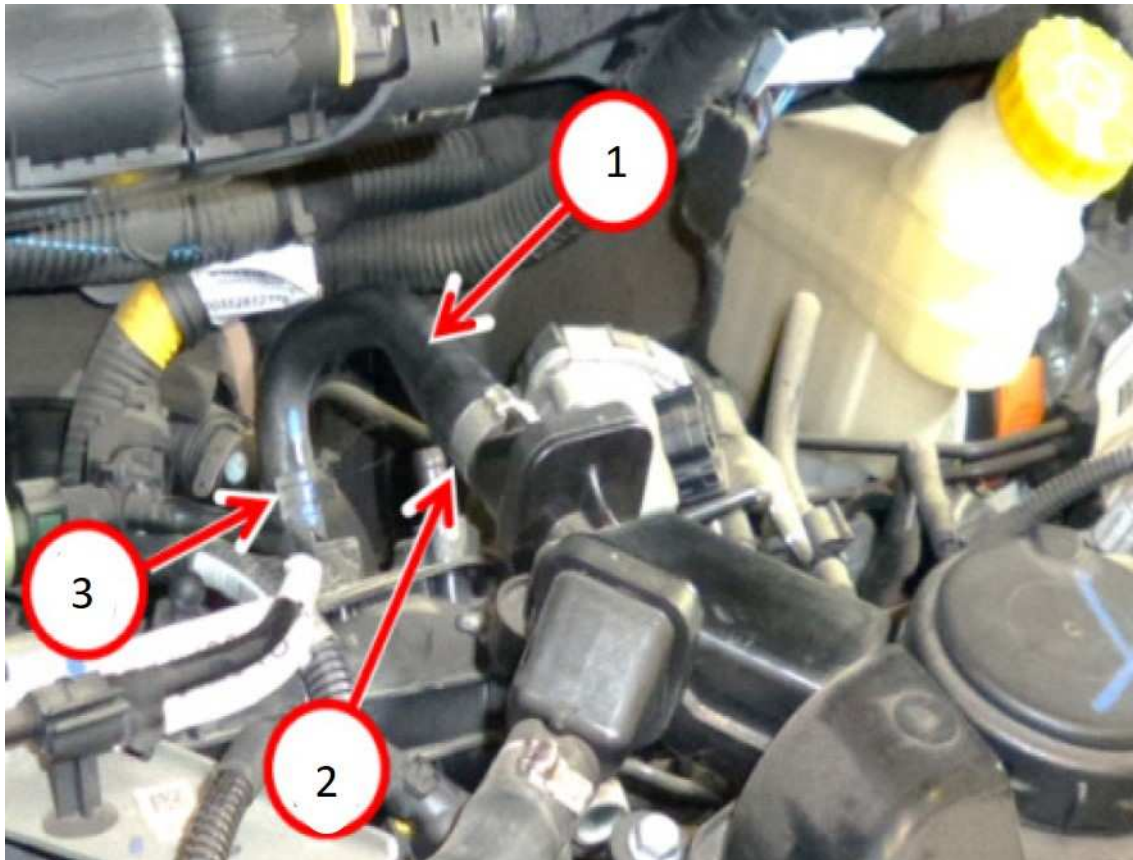

Fig. 1
2. Remove the clamps, then remove the oil vapor inlet tube (Fig. 1) .
NOTE: The clamp at the vapor separator and tube can be discarded; the clamp at the engine must be kept and reused for reassembly (Fig. 1) .